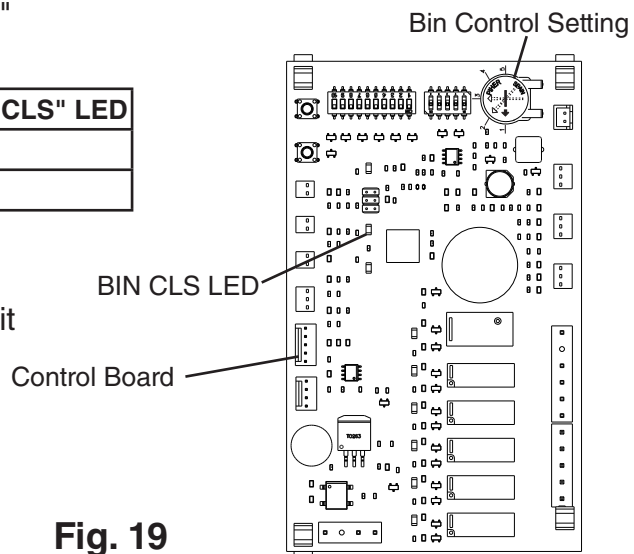

Fig. 19
- 4) Confirm the control board "BIN CLS" LED is off (bin empty). See Fig. 19.